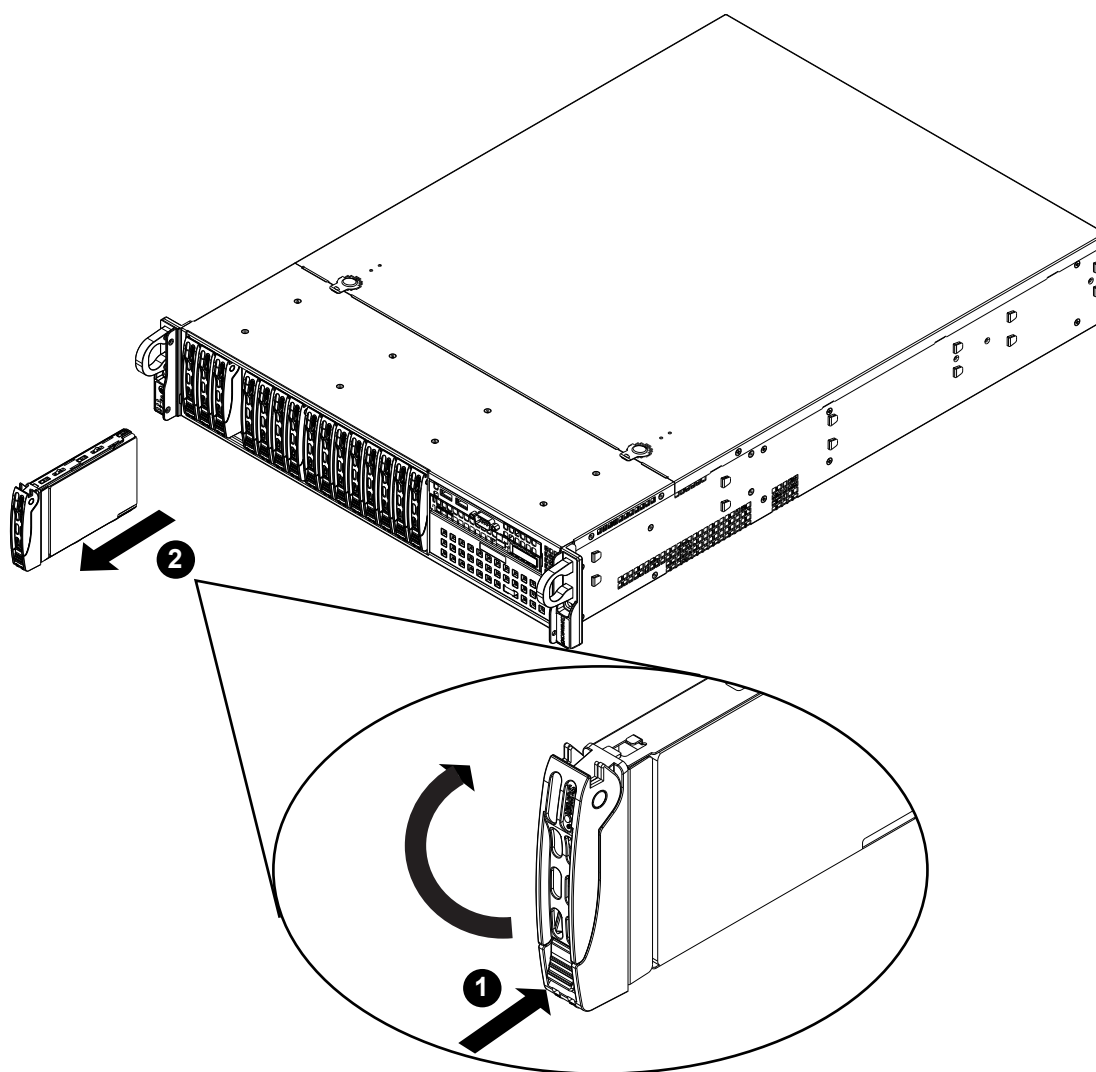

Figure 3-7. Removing a Drive Carrier
3. Remove the dummy drive from the carrier (Figure 3-7).